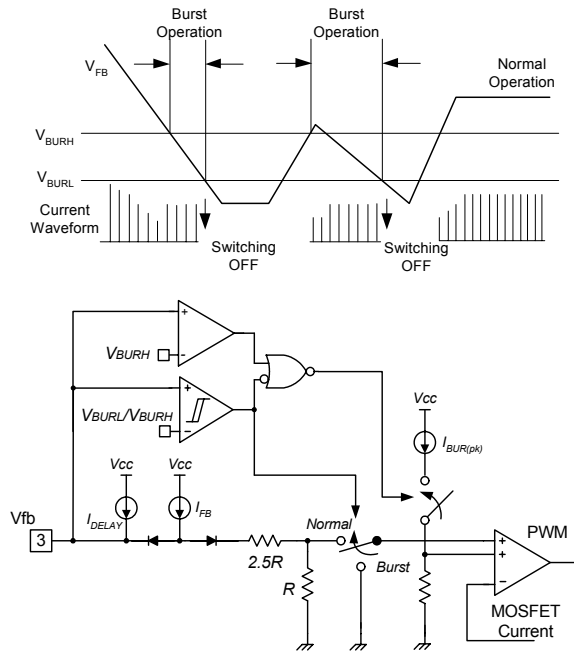

Figure 8. Burst Operation Function
6. Burst Operation : In order to minimize power dissipation in standby mode, the FPS enters burst mode operation. As the load decreases, the feedback voltage decreases. As shown in Figure 8, the device automatically enters burst mode when the feedback voltage drops below V_{BURH} (500mV). Switching still continues but the current limit is set to a fixed limit internally to minimize flux density in the transformer. The fixed current limit is larger than that defined by $V_{FB} = V_{BURH}$ and therefore, V_{FB} is driven down further. Switching continues until the feedback voltage drops below V_{BURL} (350mV). At this point switching stops and the output voltages start to drop at a rate dependent on the standby current load. This causes the feedback voltage to rise. Once it passes V_{BURH} , switching resumes. The feedback voltage then falls and the process repeats. Burst mode operation alternately enables and disables switching of the Sense FET and reduces switching loss in Standby mode.